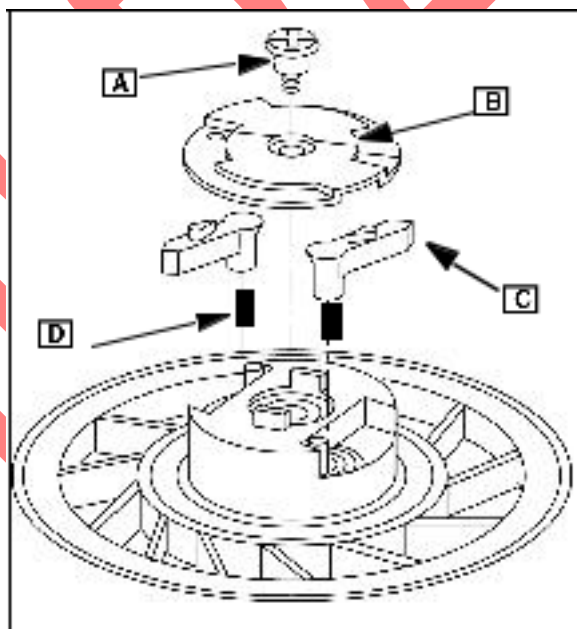

Fig. 4
Lift out pawls (C) and springs ([D] Fig. 4).